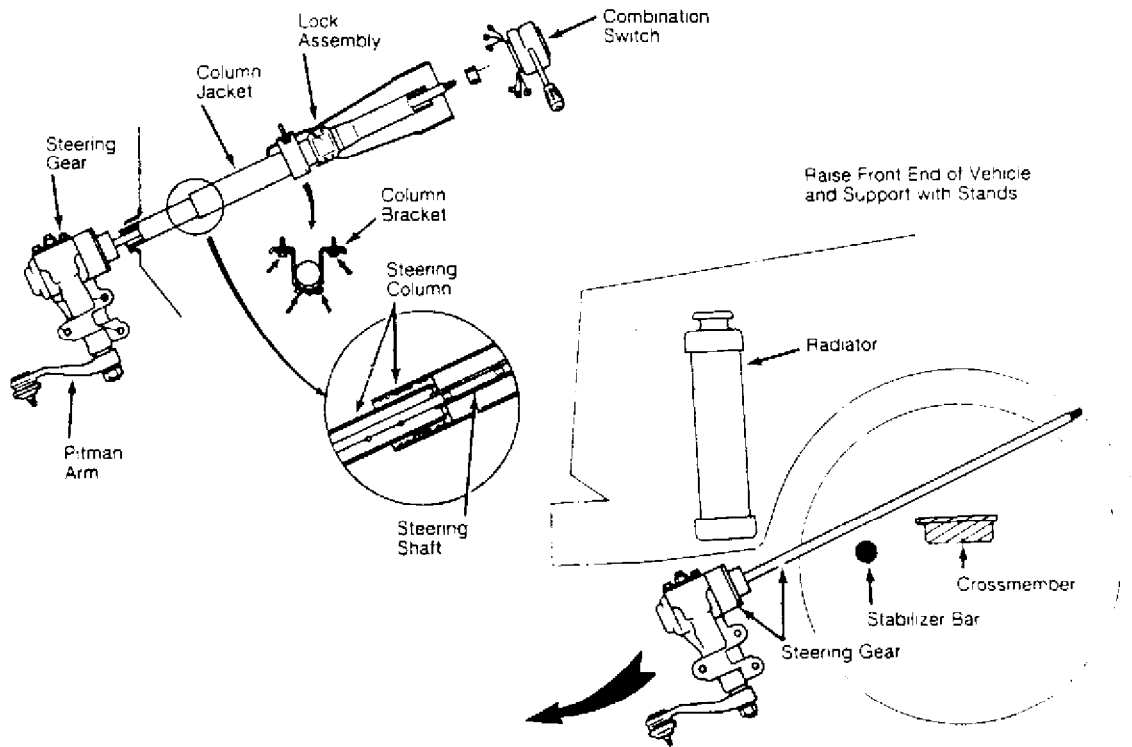

Fig. 1: GLC Wagon Steering Column
4) Remove steering gear housing attaching bolts. Remove steering gear housing assembly through engine compartment. See Fig. 1.